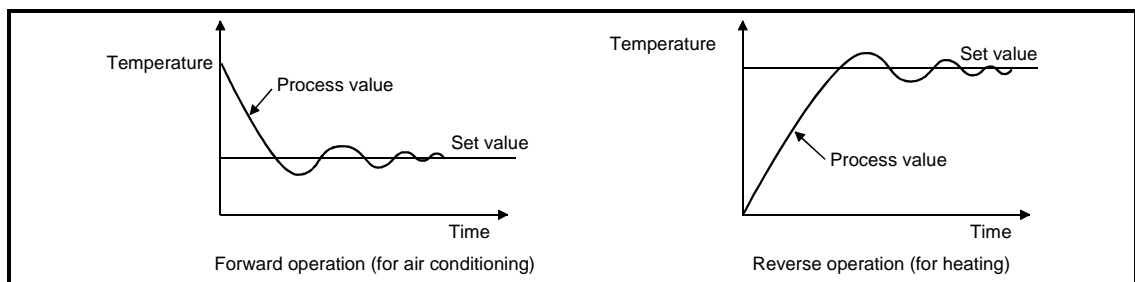

Fig. 1.2 Example of process control performed by forward and reverse operations
- (1) Forward operation is the action that increases the manipulated value when the process value increases more than the set value.
- (2) Reverse operation is the action that increases the manipulated value when the process value is decreasing more than the set value.
- (3) Forward operation and reverse action make the manipulated value larger as the difference between the set value and the process value becomes larger.
- (4) An example of process control performed by forward and reverse operations is shown in Fig. 1.2.